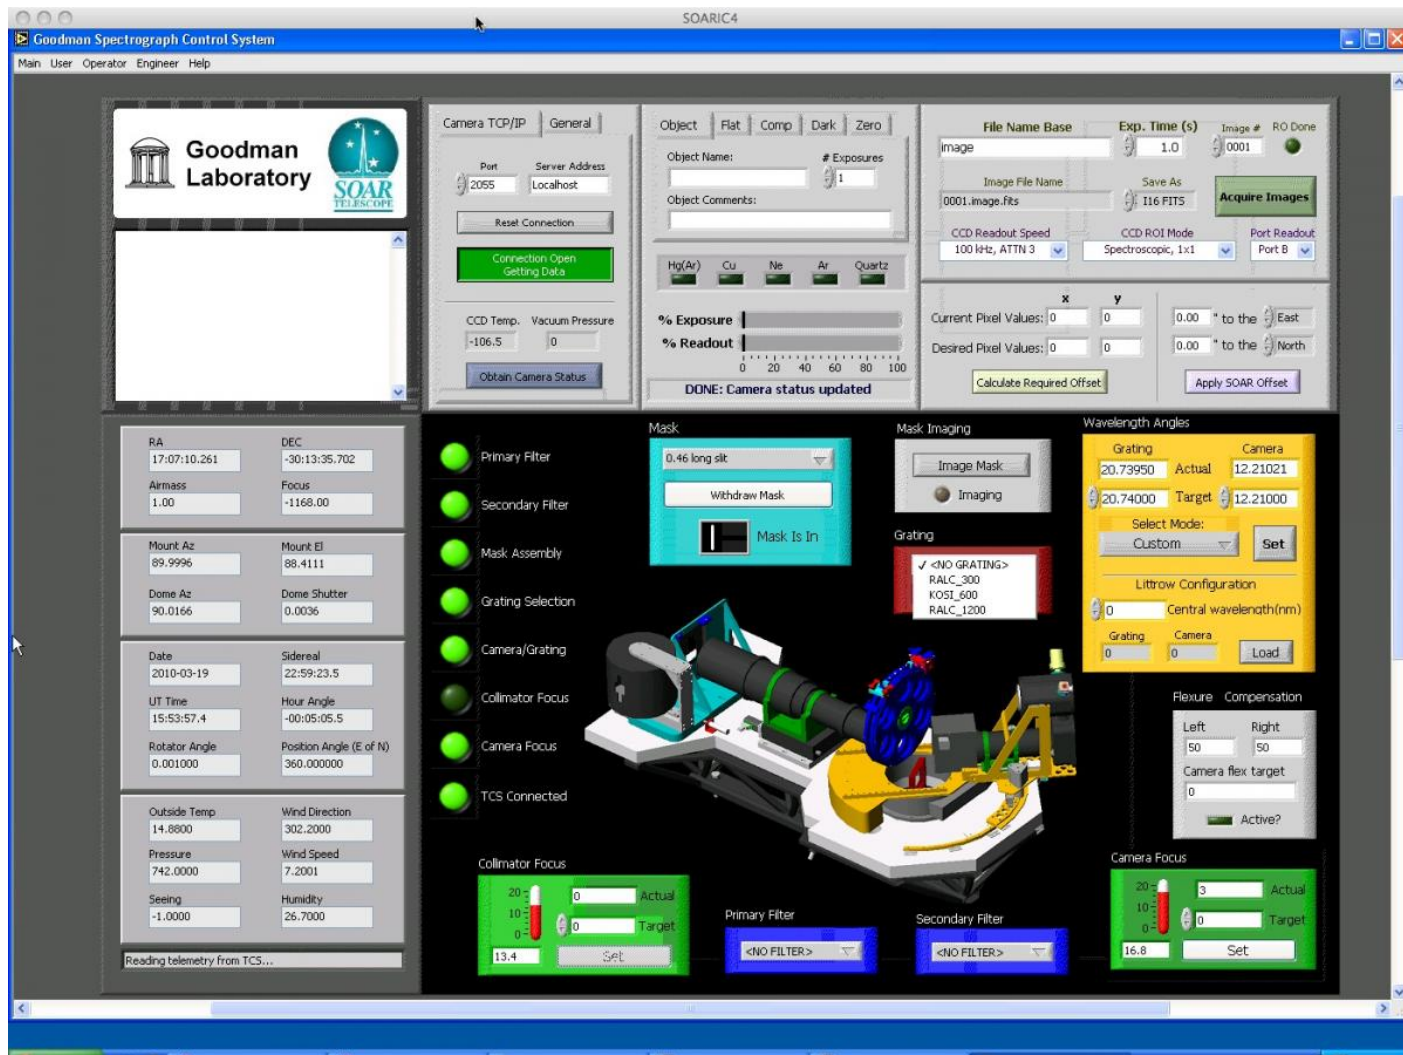

Figure 7: Selecting the grating.
- Select the grating to be used (see Figure 7).